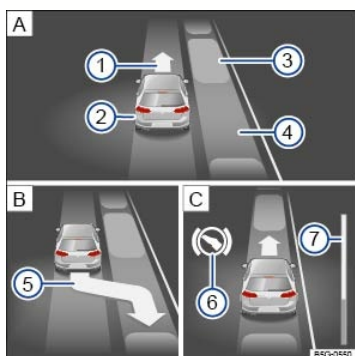
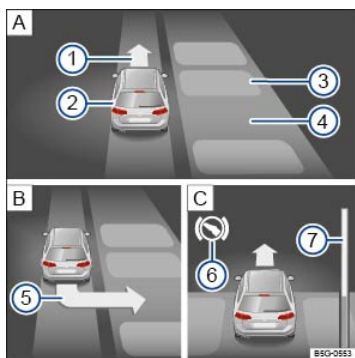

Fig. 169 In the instrument cluster display: Parallel parking. Searching for a parking space, positioning the vehicle for parking, maneuvering.
Fig. 170 In the instrument cluster display: Parking perpendicular to the road. Searching for a parking space, positioning the vehicle for parking, maneuvering.
Key to ⇒ Fig. 169 and ⇒ Fig. 170 :
The progress bar ⇒ Fig. 169⑦ or ⇒ Fig. 170⑦ in the instrument cluster display shows the relative remaining distance using symbols. The higher the progress bar the longer the remaining distance. When driving forward, the progress level moves up; when driving in reverse, it moves down.